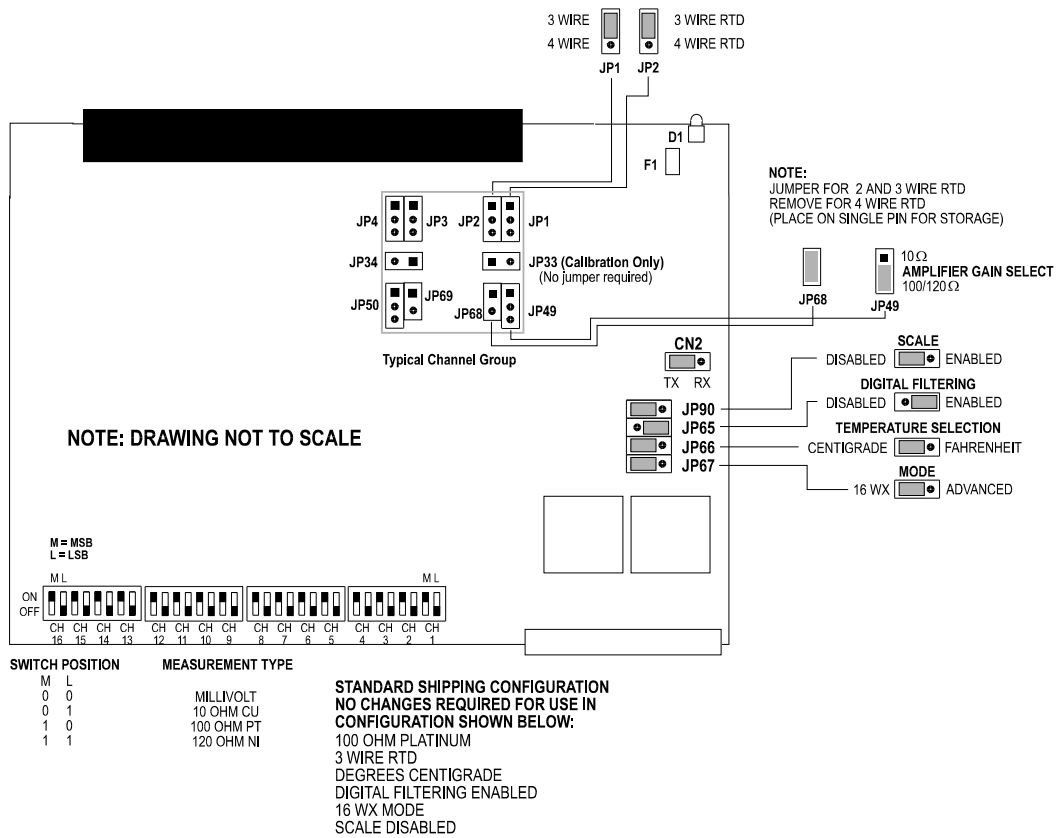

Figure 10 Configuration Jumper Locations
No hardware changes are required for millivolt inputs. To select millivolt input mode for an input turn OFF the M and L switch for the input channel. (See Figure 10.) To select a particular RTD probe for each channel configure the M and L switch.
Each channel contains a jumper to select between 2, 3 and 4 wire RTD elements. (See Figure 10, JP68). For 2 wire and 3 wire RTDs no change is required. For 4 wire RTDs the jumper should be removed and placed on a single pin for storage.
2. Move 2 input jumpers/channel to the 4 wire position. For example: To configure Channel 1 move JP1 and JP2 to the 4 wire position. (See Figure 10.)
If a 10 Ohm RTD is selected the gain of the input amplifier must be increased to process the smaller signal levels. (See Figure 10.) JP49-JP64 are the amplifier gain select jumpers for Channels 1-16. No jumper changes are required to select 100 Ω or 120 Ω RTD.
Locate JP67 on the printed circuit board to select PLC Login Mode (See Figure 10). Standard login is 16 WX registers in the PLC. Advanced Operating Mode logs in as 16 X, 16 Y, 32 WX and 32 WY registers. Consult the CTI 255x Sixteen Channel Advanced Function Programming Reference Manual part #62-177, if the advanced operating mode is to be selected.
Locate the temperature scaling jumper JP66 on the right hand side of the module (see Figure 10) and select either degrees Fahrenheit or Celsius by positioning the jumper in the DEG F or DEG C position.
Locate JP90 on the printed circuit board (See Figure 10). Select DISABLE to present data to the PLC as temperature X10 or millivolts X100. Select ENABLE to scale and present the data as an unsigned integer from 0-32000.